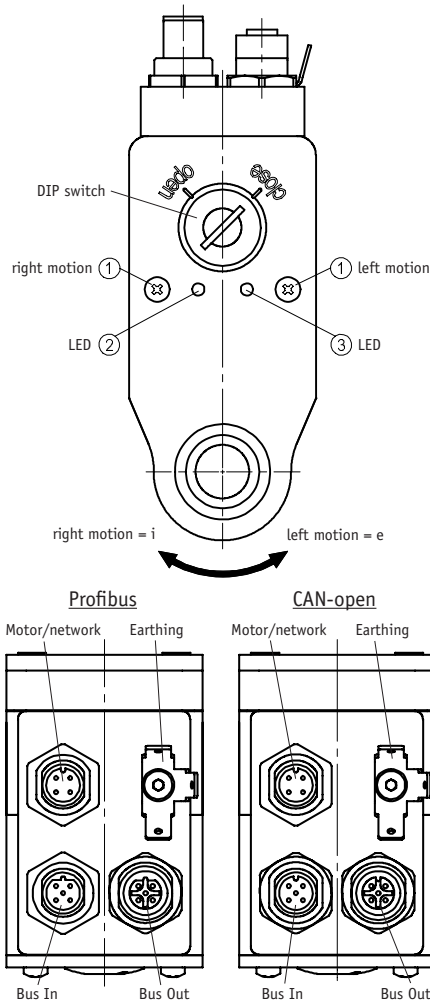

Fig. 6: Encoder absolute
By opening the cross-head screws, (1) (see fig. 6+7) the inching buttons can be accessed.